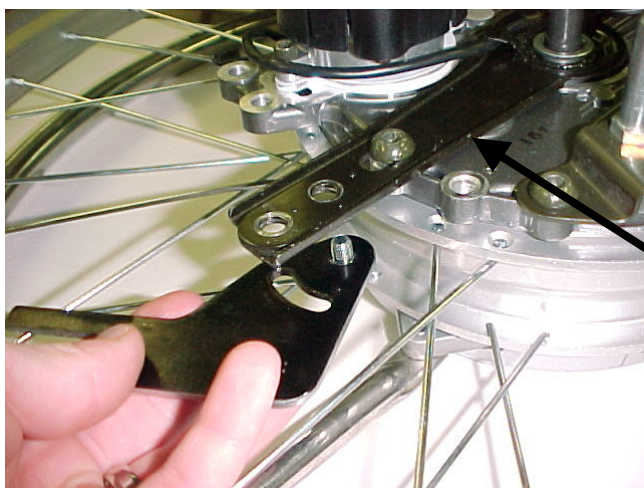
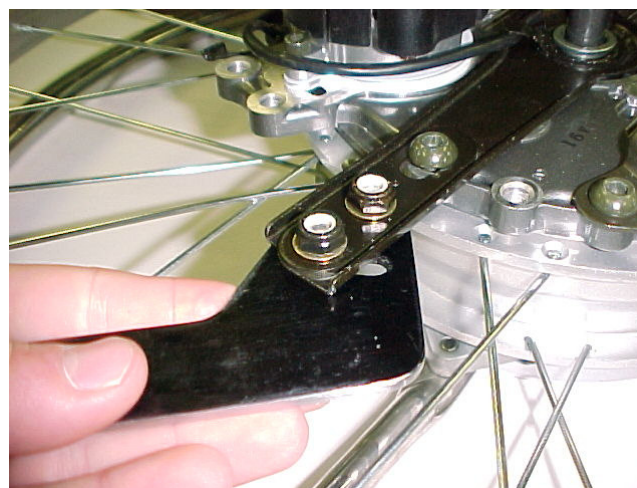

Figure 6: Adjustable Bracket with Hardware
Figure 7: Attached Adjustable Bracket
1. Take one of the 1/4-28 x 5/8" Button Head bolts, (**Figure 3**) and slide a 1/4" Thin Washer on it and insert it through the hole of the Adjustable Xtender Switch Bracket (**Figure 1**). Next position the 1/4-28 Bolt with Bracket and insert it through the Yamaha Main Switch Arm as seen in **Figure 6**. Attach the 1/4-28 bolt using the 1/4-28 Nylock Nut and 1/4" Washer. Repeat the step with the Slot on the Adjustable Xtender Switch Bracket as pictured in **Figure 7**. Note: Do not fully tighten the bracket as this will be completed in later steps. Only snug the bracket in place so the bracket can still be moved.